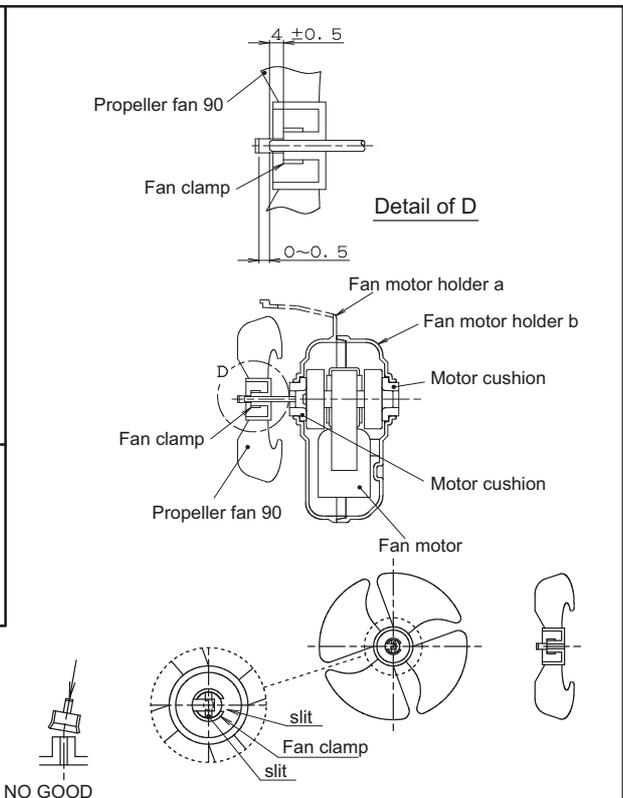

Figure A-4
4. Set Fan clamp to propeller fan 90 mm. and then insert it to the shaft of Fan motor( Fig. A-4).